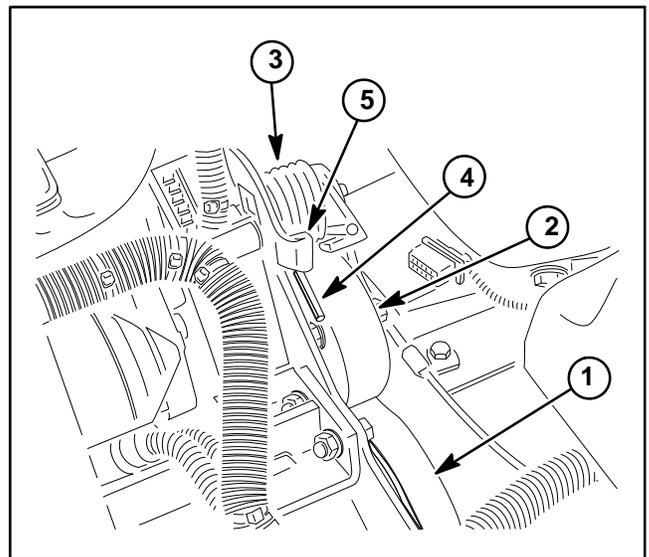

Figure 51
3. Remove pump drive belt tension from torsion spring on idler arm (Fig. 51).
4. Apply pump drive belt tension with torsion spring on idler arm (Fig. 51).